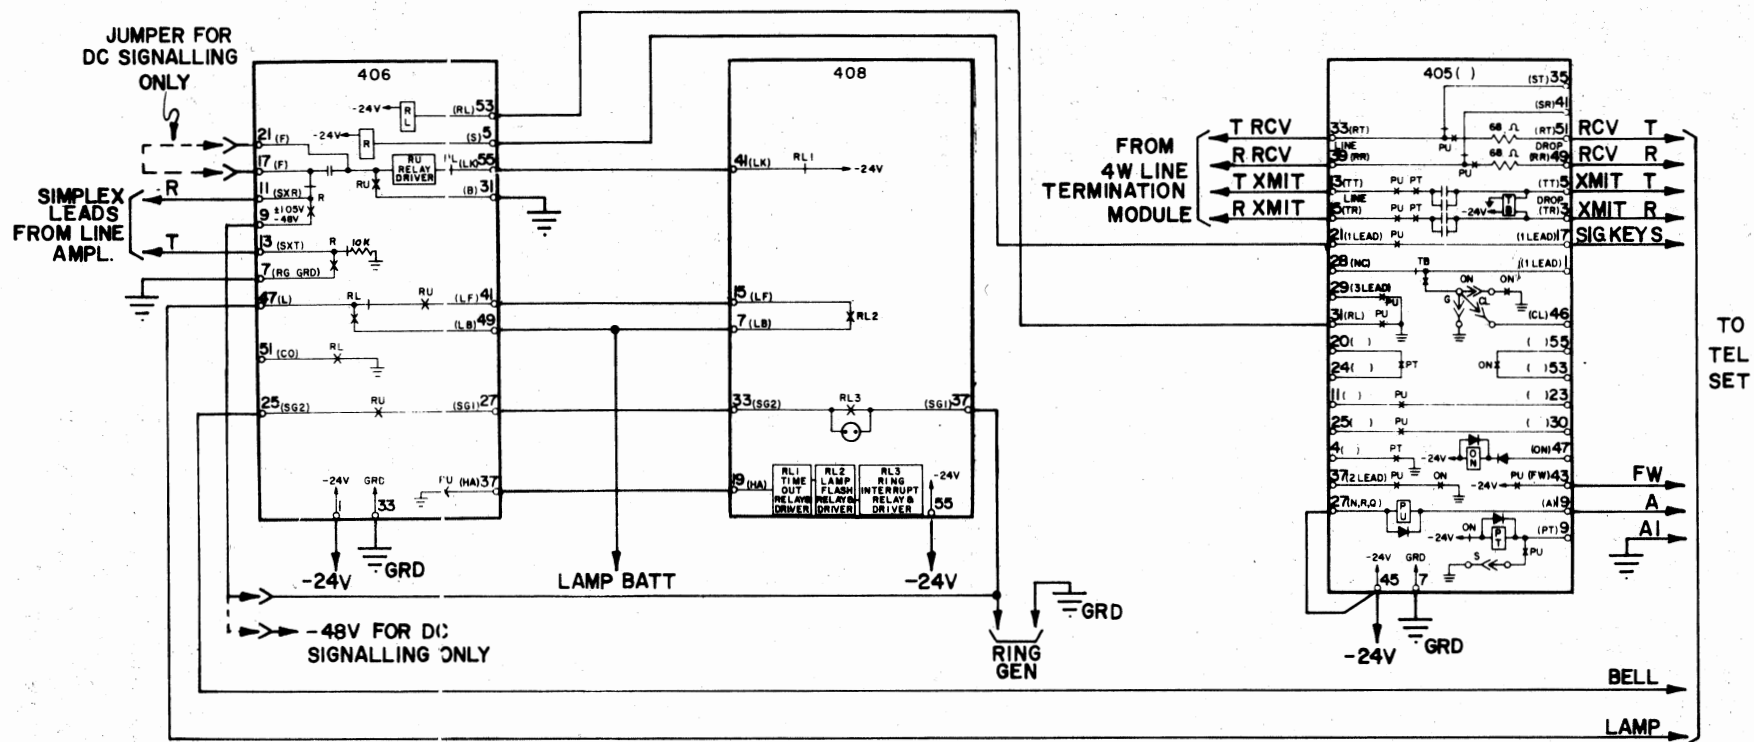

Figure 2. 406 Module Typical Application
Refer to the attached 406 schematic diagram and to the 406 Module Typical Application drawing (Figure 2) during the following discussion.
7.01 If trouble is encountered with the operation of the 406 module verify that all installer connections (Table 1 and Figure 2) have been properly made. Make certain that the 406 module is making good connection with the mounting-assembly card connector; snap the module out and in several times. If the trouble persists, perform the following test procedure to determine whether the fault exists within the 406 module or in the external circuitry.